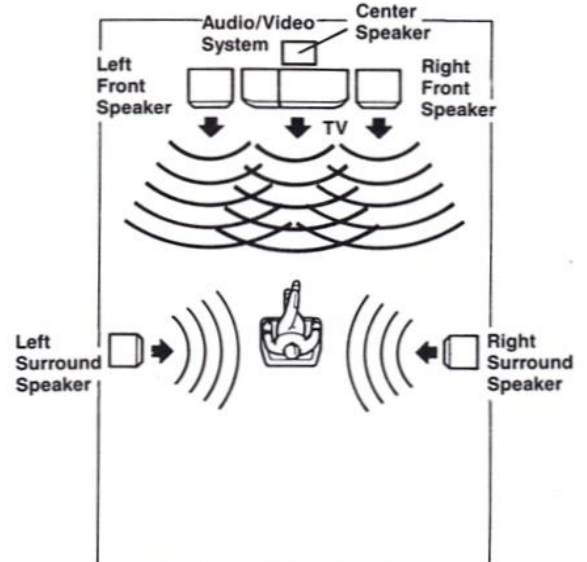

Figure 10
| ④ SPEAKER Buttons | ⑬ Display Panel (Figure 10) |